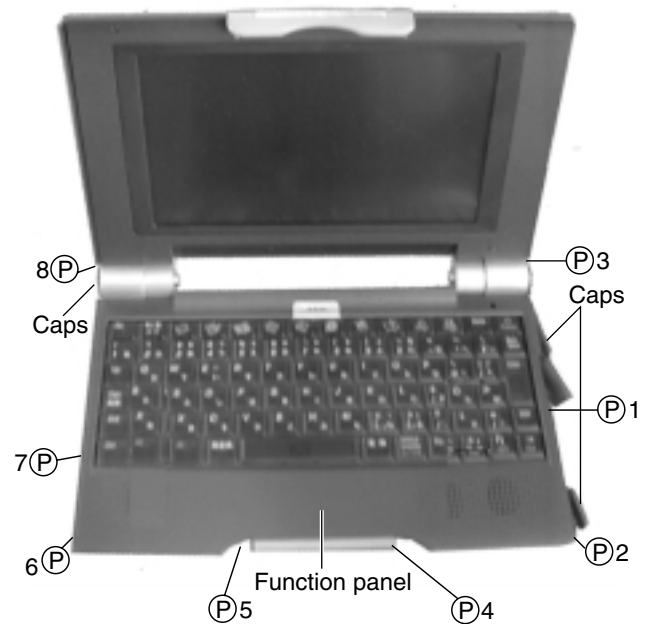

Fig. 2
6. Open the caps (Serial, USB, TEL). (Fig. 2)